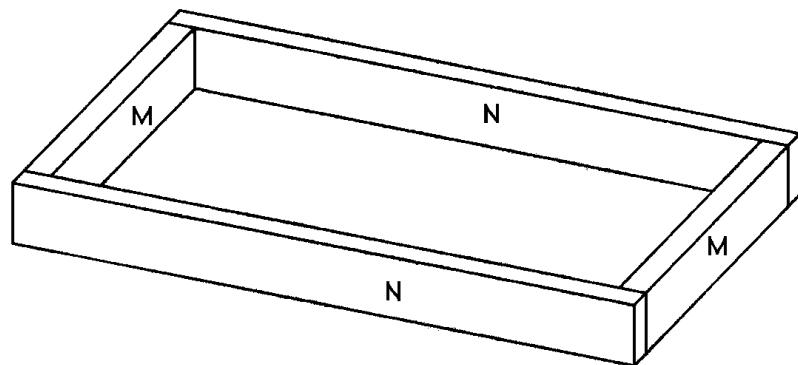
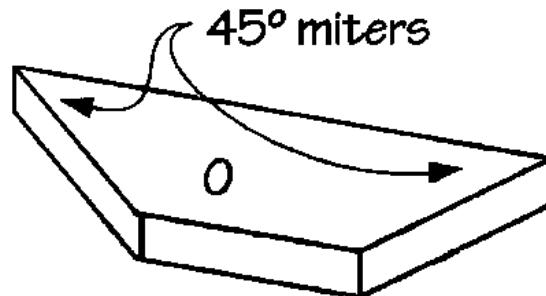

Figure 9
Figure 10
1. Cut 2 support blocks (L) from 1 x 2 pine, each measuring 4 inches long.
2. Place the completed cabinet on its front. Apply glue to the meeting surfaces and nail each of the support blocks (K) over the two joints between the vertical trims (D) and the wide horizontal trim (F) flush with the lower edge of the wide horizontal trim (F). Nail through each support block (L), using two 1-1/4-inch (3d) finishing nails, one on each side of the joint.
3. Cut two base sides (M) from 2 x 4 pine, each measuring 18-1/2 inches long.
4. Cut two base front/backs (N) from 2 x 4 pine, each measuring 35 inches long.
5. Place the two base sides (M) parallel to each other and 32 inches apart. Fit the two base front/backs (N) over the base sides (M), to form a rectangle measuring 35 x 21-1/2 inches, as shown in *Figure 9*. Screw through the base front/backs (N) into the base sides (M) using two 2-1/2-inch screws on each joint.
6. Cut four base supports (O) from 2 x 4 pine, each measuring 12 inches long.
7. Miter the ends of each base support (O) across the width at opposing 45-degree angles, as shown in *Figure 10*.
1. Cut four support blocks (AA) from 1 x 2 pine, each measuring 4 inches long.
2. Place the completed cabinet on its front. Apply glue to the meeting surfaces and nail each of the support blocks (AA) over the four exposed between the vertical trims (T) and the horizontal trims (U). Nail through each support block (Y), using two 1-1/4-inch (3d) finishing nails, one on each side of the joint.
3. Cut two base sides (BB) from 2 x 4 pine, each measuring 11 inches long.
4. Cut two base front/backs (CC) from 2 x 4 pine, each measuring 28 inches long.
5. Place the two base sides (BB) parallel to each other and 25 inches apart. Fit the two base front/backs (CC) over the base sides (BB), to form a rectangle measuring 28 x 14 inches, as shown in *Figure 9*. Screw through the base front/back (CC) into the base sides (BB) using two 2-1/2- inch screws on each joint.
6. Cut four base supports (DD) from 2 x 4 pine, each measuring 7-1/2 inches long.
7. Miter the ends of each base support (DD) across the width at opposing 45-degree angles, as shown in *Figure 10*.